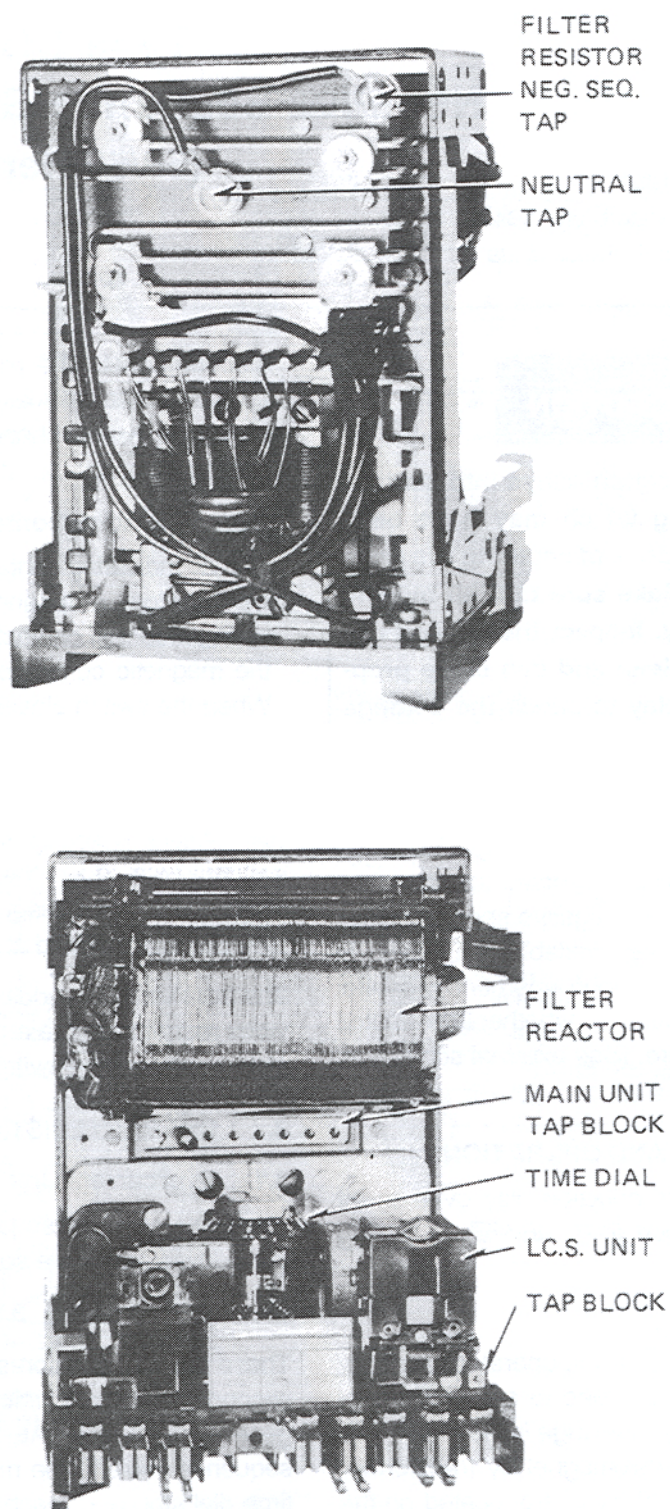
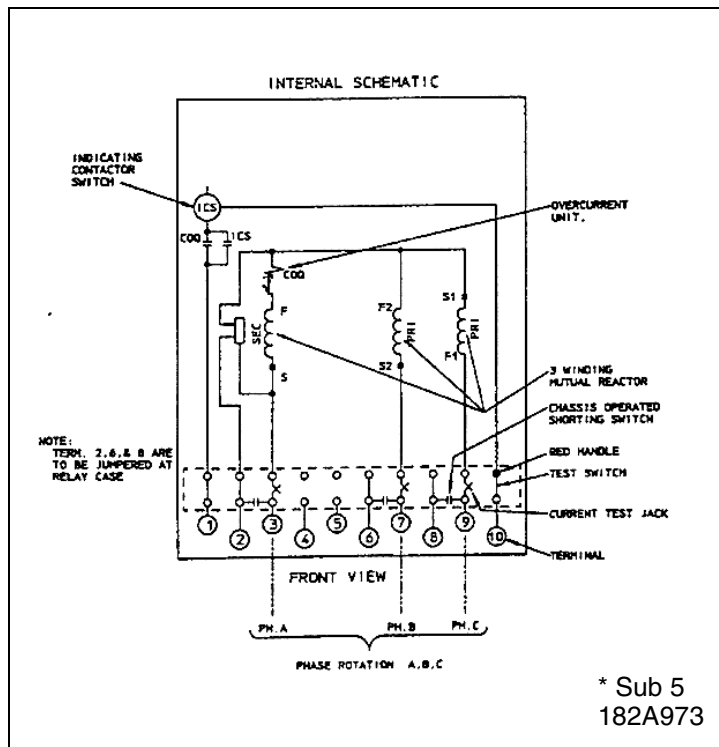
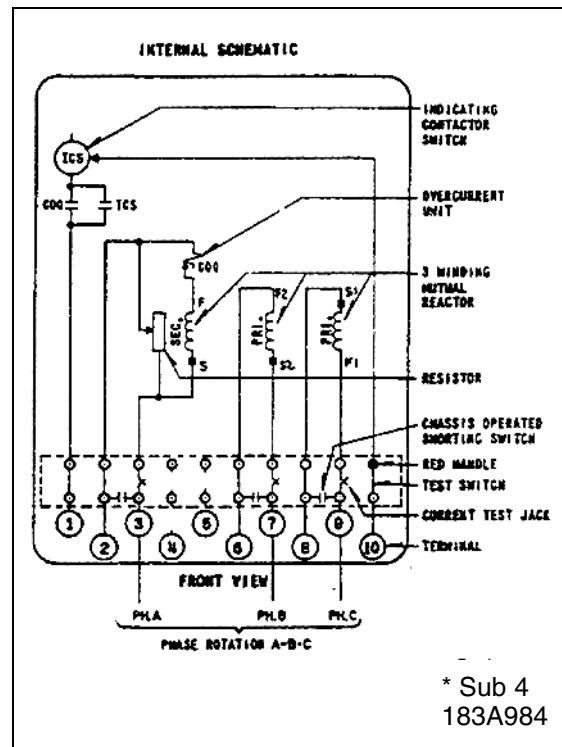

Figure 1. Type COQ Relay – Without Case.
Figure 2. Internal Schematic of the Type COQ Relay in the FT 21 Case – Neutral Formed in Relay
Figure 3. Internal Schematic of the Type COQ Relay in the FT 21 Case – For Forming Neutral External to Relay
The COQ is used to prevent a synchronous machine from being damaged due to negative sequence fault currents. Two varieties are available, as shown in Figures 2 and 3, depending upon whether the neutral can be formed at the COQ or whether the neutral must be formed elsewhere. (See external schematic, Figures 8 and 9.)
- e. Now measure the voltage across the resistor. Adjust top filter resistor position until this voltage is 1.73 times the reading from (d) above. For relays wired per Figure 2 connect the voltmeter to switch jaw 3 and to the top filter resistor screw connection (see Figure 1). For relays wired per Figure 3 connect voltmeter across switch jaws 2 and 3.
To eliminate zero sequence response (relays wired per Figure 2 only), remove tap screw, and connect per Figure 10: Apply  $I_X = 5$  amperes;  $I_Y = 10$  amperes. Measure voltage from terminal 3 to top filter resistor screw connection (see Figure 1). Adjust the neutral filter resistor tap until measured voltage is zero.